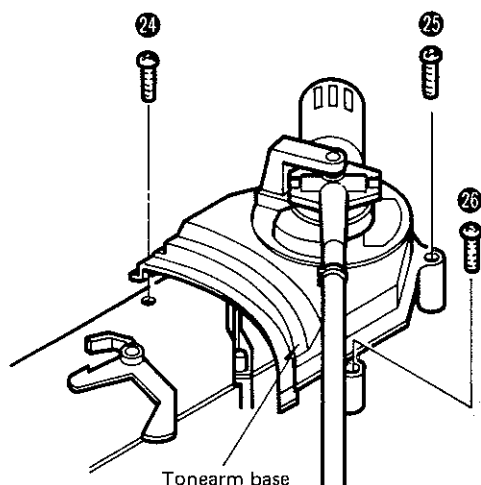

Fig. 7
2. Remove the 3 tonearm base setscrews (Fig. 7 : ⑳ ~ ㉔).